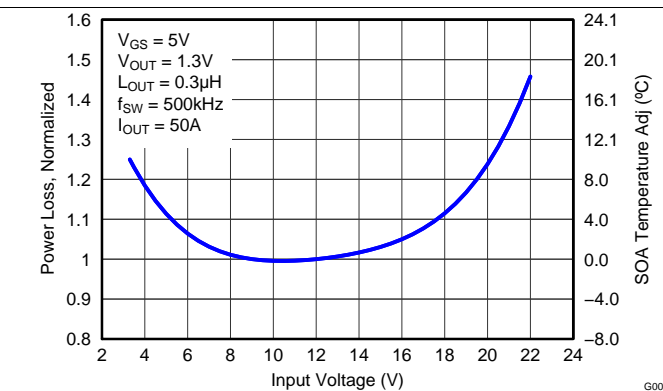

Figure 8. Normalized Power Loss vs Input Voltage
- Normalized power loss for input voltage ≈ 1.03 (Figure 8)
- SOA adjustment for input voltage ≈ 1.3°C (Figure 8)